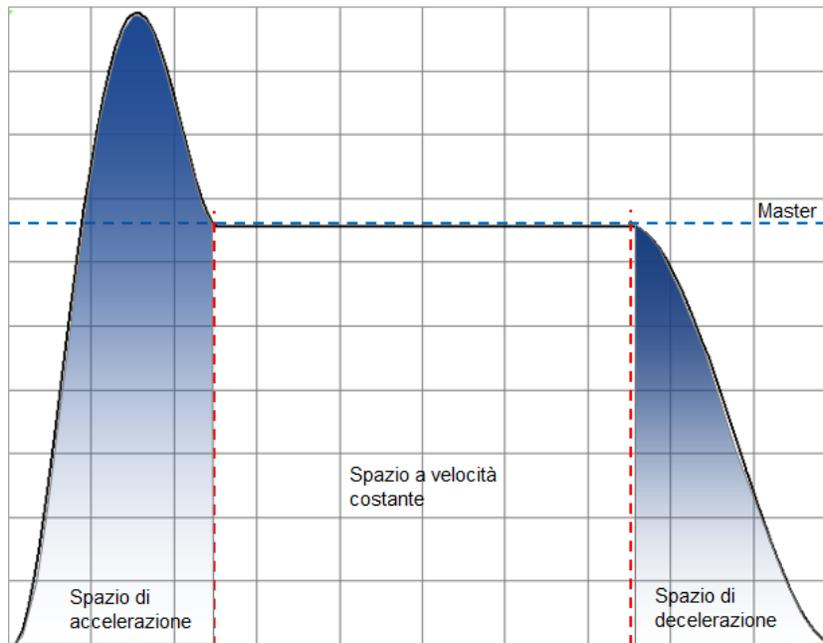

Figure 24: Speed profile generated with the "Acc_Mode" input =1
- if "Acc_Mode" is equal to one, the distance traveled during the acceleration phase corresponds to the space Master (Figure 24)
- To generate negative movements, act on the function blocks' Delta' using the same strategy suggested for the function block' Profile_Gen (Figure 24)